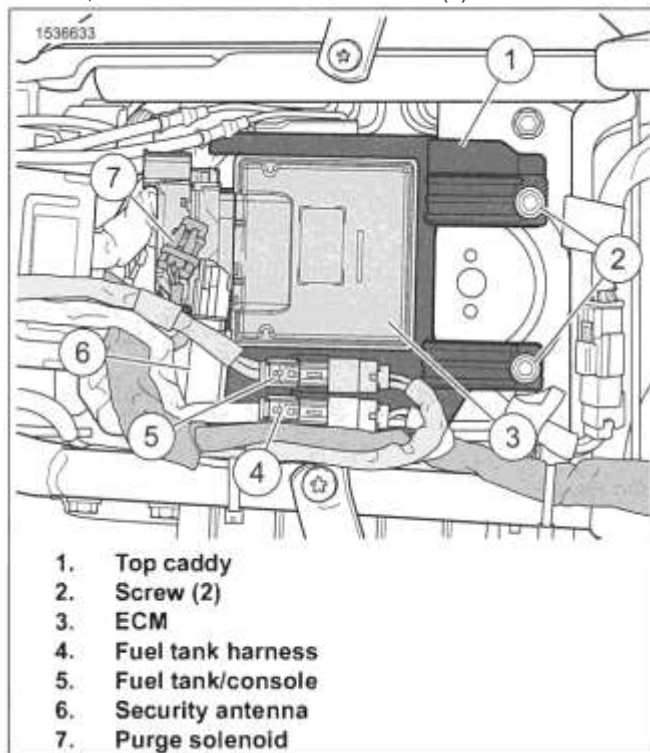

Figure 6-3. Top Caddy
1. See Figure 6-3. Disconnect connectors.
- a. FLHX, FLT Models: Disconnect fuel tank connector (4).
- b. Except FLHX, FLT Models: Disconnect fuel tank/console connector (5), if equipped.
4. See Figure 6-3. Connect electrical connectors.
- a. Except FLHX, FLT: Connect fuel tank/console connector (5), if equipped.
- b. FLHX, FLT: Connect fuel tank connector (4).